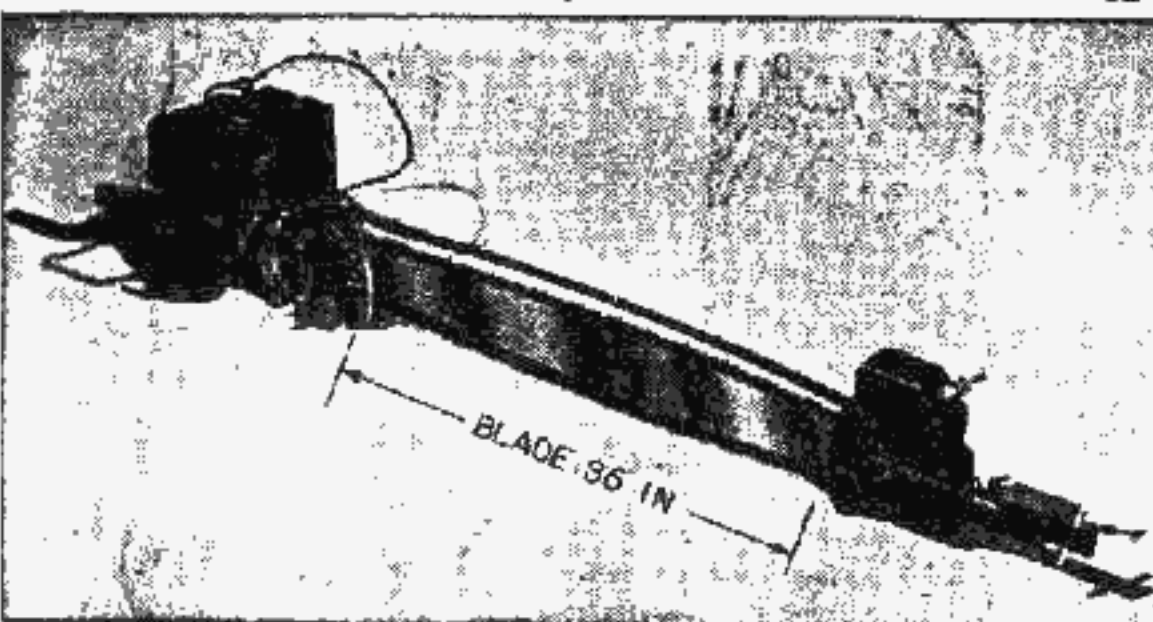

FIGURE 35.—Gasoline-driven chain saw.
10. POWER-DRIVEN TOOLS.—The power-driven tools used most frequently by the engineer are tools driven by compressed air from the mobile air compressor unit. These tools save much time and labor, and each engineer soldier should know how to use them. The tools most commonly used are clay diggers, wood and rock drills, pavement breakers, hammers, and wood saws. (See figs. 23 to 34, inclusive.) Figure 35 illustrates the gasoline timber saw.